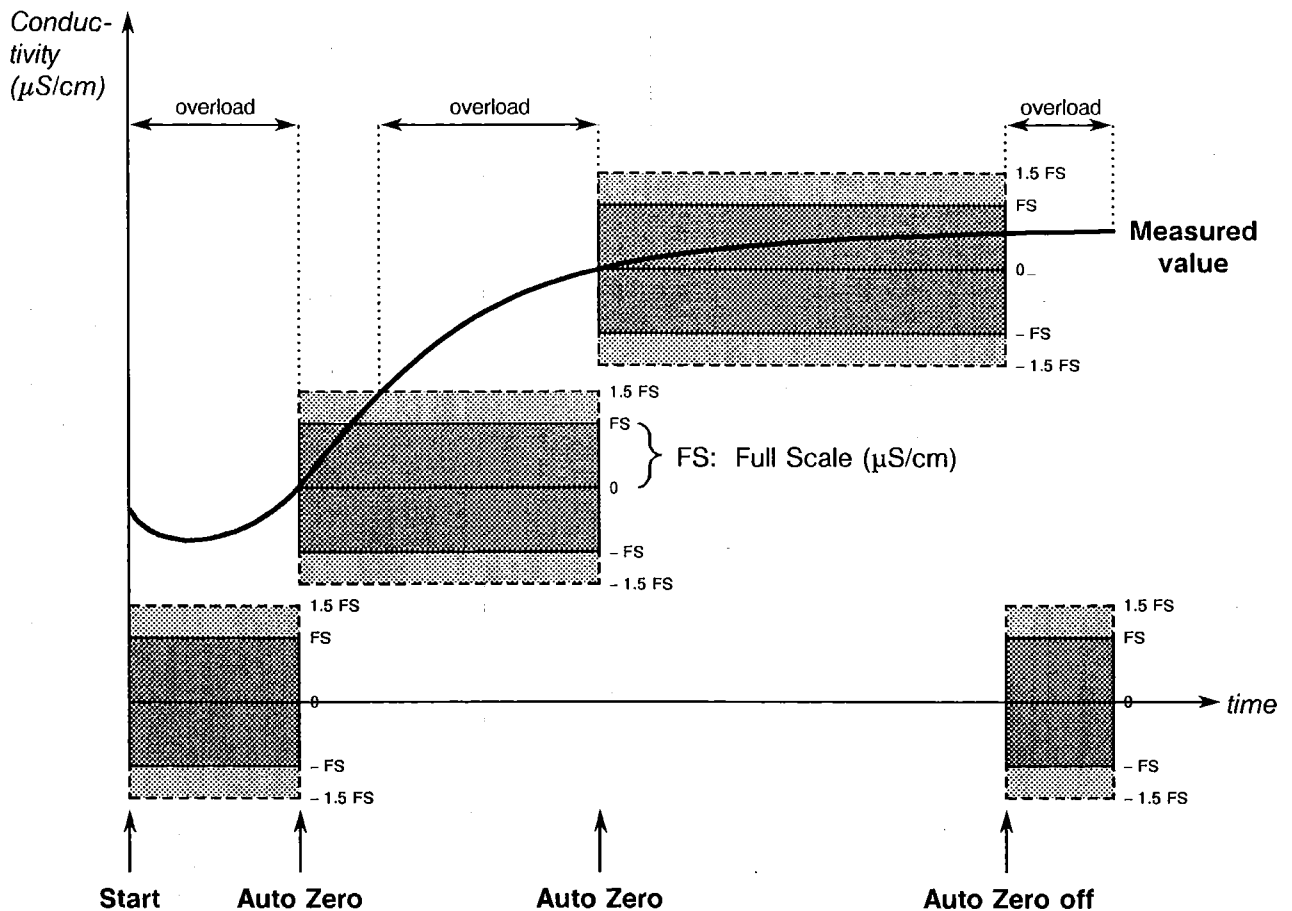

Fig. 18: Auto Zero
"Auto Zero" is the term used to describe the **automatic electronic background compensation of the measuring signal**, i.e. the current measured conductivity value becomes the new zero point of the selected full scale range. Fig. 18 shows a pictorial representation of the mode of operation of the Auto Zero function. Before first-time actuation or after switching off the Auto Zero function, the zero point of the full scale range (FS) is set to 0 $\mu\text{S}/\text{cm}$; by pressing the Auto Zero switch (7), it is set automatically to the current measured value. The Auto Zero function can also be triggered externally via connection sockets (22) (see Section 7.2).
Illumination of the red overload lamp (8) shows that the measured value lies outside $\pm 150\%$ of the full scale range selected (see Fig. 18).